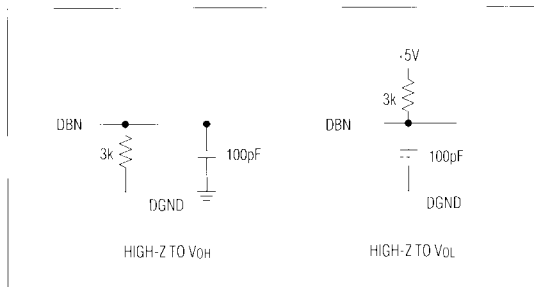

Figure 3. Load Circuits for Access Time Test ( $t_{11}$ )
**Note 7:** t11, the time required for an output to cross 0.8V or 2.4V, is measured with the load circuits of Figure 3.